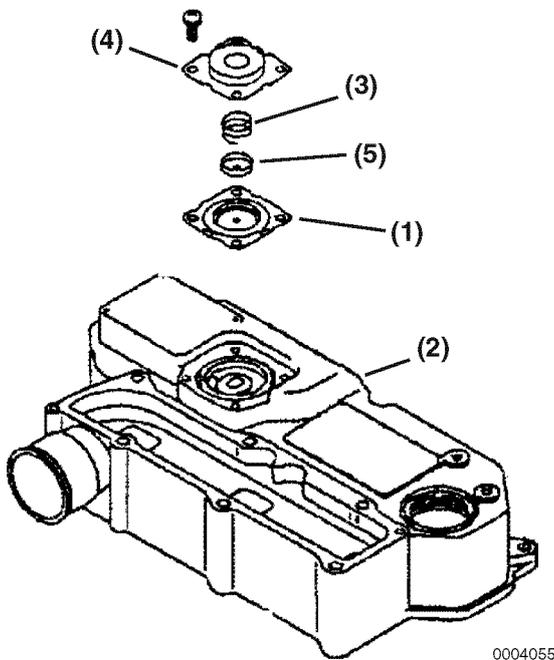

Figure 5-18
The non-turbo TNV engines use a crankcase breather system that has a spring-backed diaphragm (Figure 5-18, (1)) in the valve cover (Figure 5-18, (2)). When the crankcase pressure reaches a predetermined value, the diaphragm opens a passage that allows crankcase fumes to be routed to the intake manifold.
To inspect the diaphragm and spring (Figure 5-18, (3)):
1. Remove the bolts retaining the diaphragm cover (Figure 5-18, (4)).
2. Remove the diaphragm cover, spring, diaphragm plate (Figure 5-18, (5)) and diaphragm.